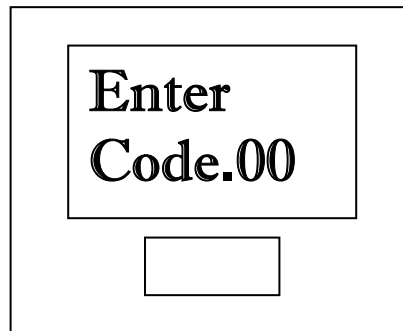

Figure 5
4. When access is gained, press the **CANCEL** button to exit. See Figure 5. The hidden menu codes can now be accessed.